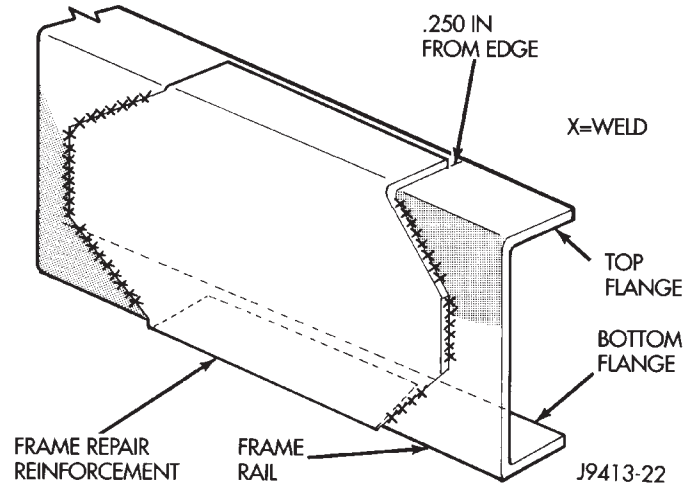

Fig. 4 Frame Reinforcement
(1) Drill a hole at each end of the crack with a 3 mm (0.125 in.) diameter drill bit.
(2) Using a suitable die grinder with 3 inch cut off wheel, V-groove the crack to allow 100% weld penetration.
(3) Weld the crack.
(4) If necessary when a side rail is repaired, grind the weld smooth and install a reinforcement channel (Fig. 4) over the repaired area.
If a reinforcement channel is required, the top and bottom flanges should be 0.250 inches narrower than the side rail flanges. Weld only in the areas indicated (Fig. 4).